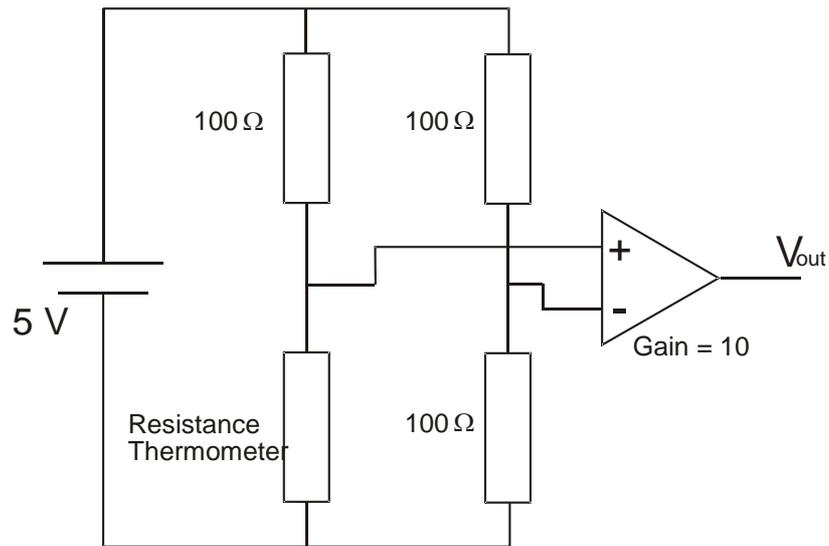

Figure Q3(c)
- (c)** The resistance thermometer of Q3(b) is incorporated in the circuit presented in Figure Q3(c).